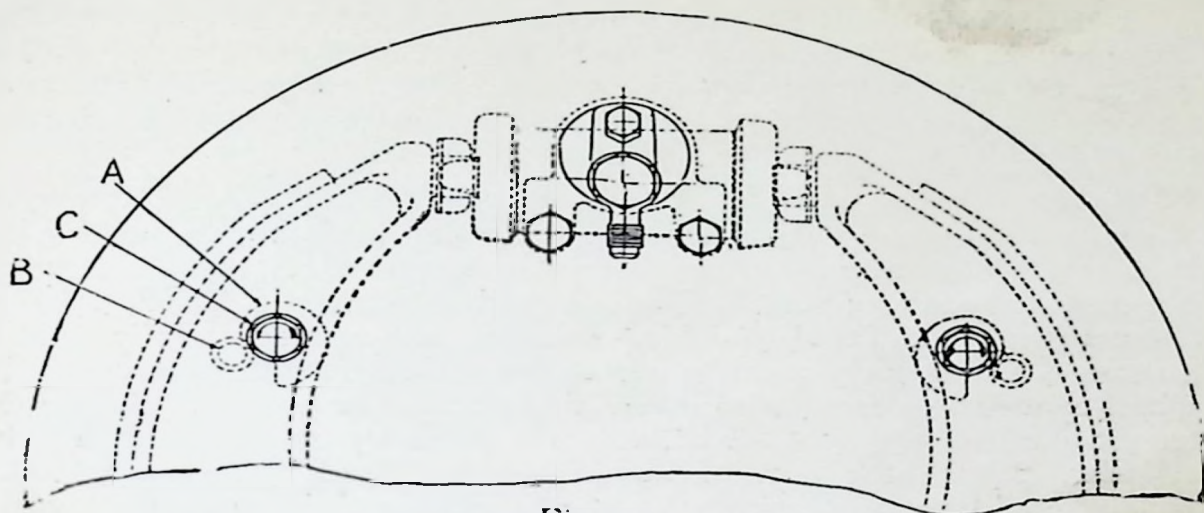

Fig. 7.
made by rotating the adjustment cam (A, Fig. 7) against stop pin (B) on the shoe. Rotate the adjustment nut (C) with a wrench until brake shoe comes into contact with drum, then back off adjustment slightly until the wheel rotates freely without any appreciable drag.
**SPECIAL NOTE.** One complete turn of the adjustment nut (C) is sufficient to take up ALL lining wear. When adjusting, the adjustment nut will only require a PARTIAL TURN before shoes are brought in contact with drum.